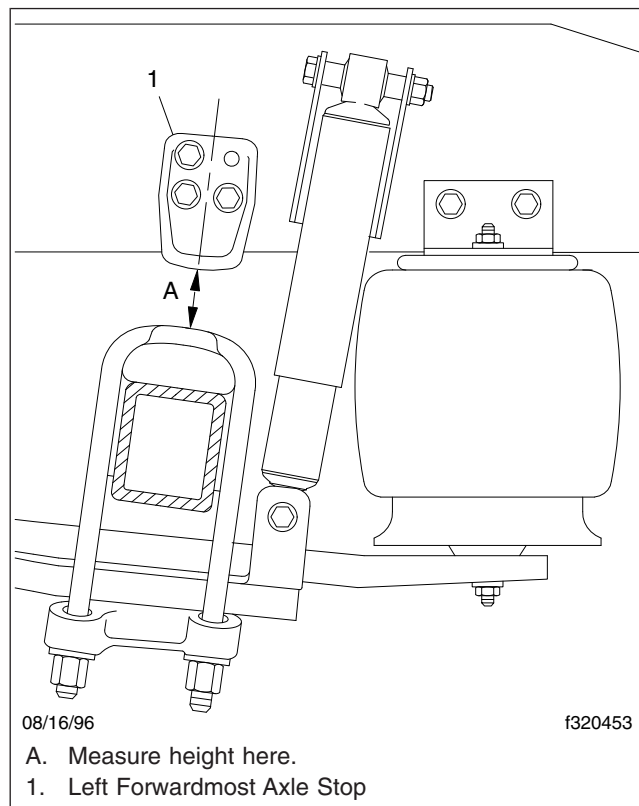

Fig. 7, AirLiner Axle Stop Measurement
7. On single-drive rear axle configurations, measure the distance from the bottom of the left axle stop to the top of the U-bolt pad. On dual-drive rear axle configurations, measure the distance from the bottom of the forwardmost left axle stop to the top of the axle U-bolt pad. See Fig. 7, Ref. A. The correct distance for single and dual-drive rear axles is from 2-3/8 to 2-7/8 inches (60 to 73 mm).